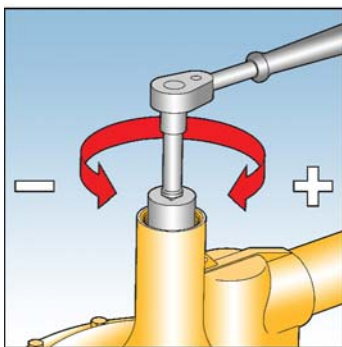

Fig. 6
4. Turn anticlockwise (-) to reduce loading on regulator spring to minimum. See Fig. 6 (If no safety devices are fitted go to instruction 10).